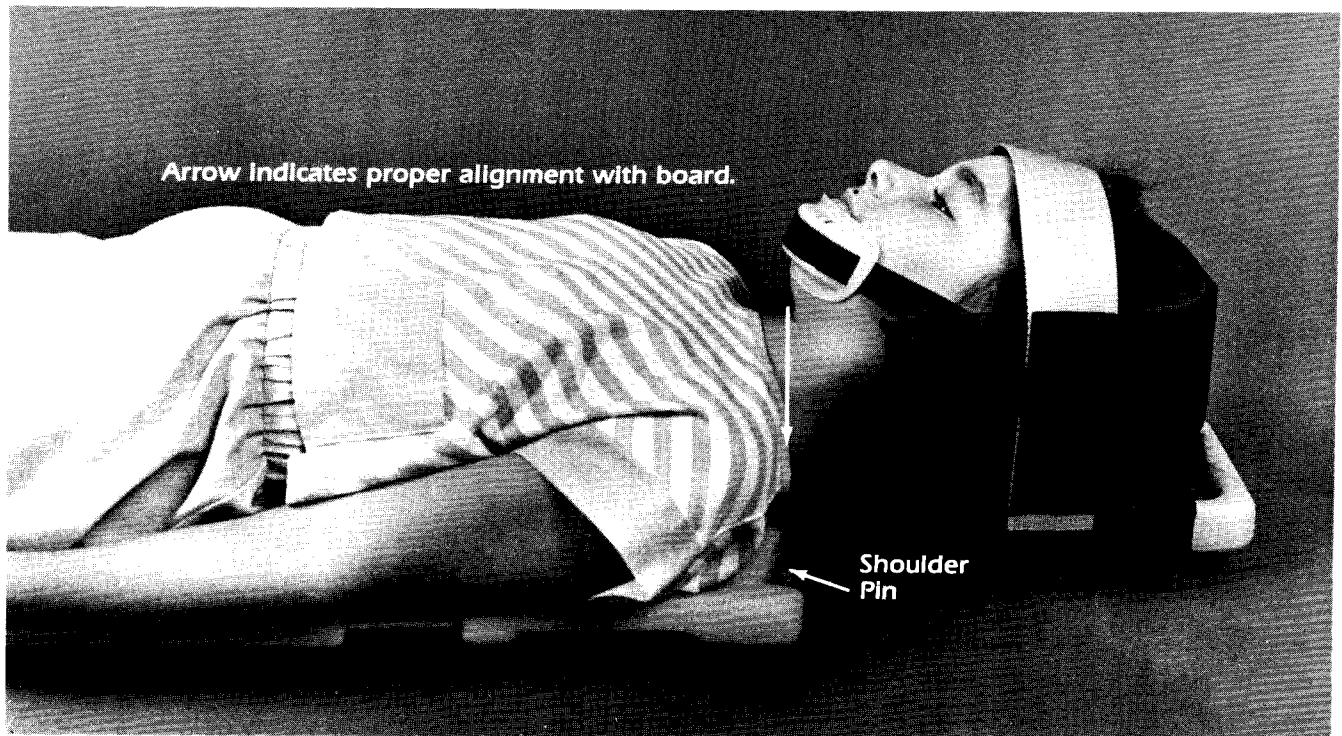

Figure 2.1
- 2.1 Align the victim's shoulders (under all circumstances) with the shoulder pins of the body splint/litter. (Figure 2.1)